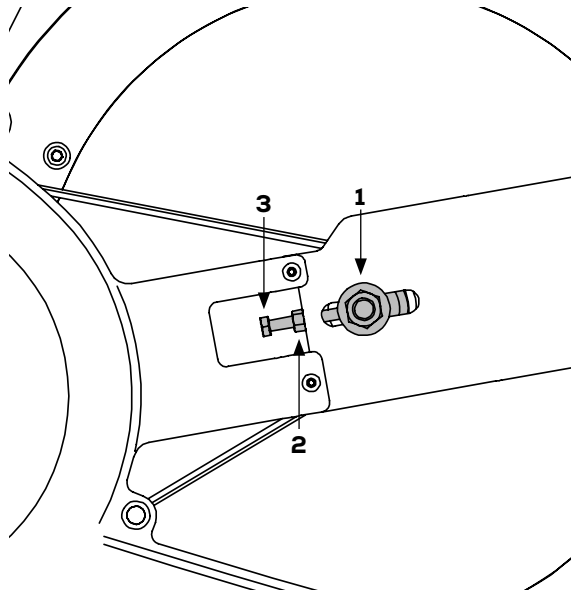

Figure 30
2) Loosen the bolts (1) on both sides of the bike with a 19 mm wrench. See figure 30.
3) Loosen the nuts (2) on the counter bolt on both sides of the bike with a 10 mm wrench. See figure 30.
4) Use a wrench to tighten the counter bolts (3). On the right side, the tool should be pulled downwards and on the left side upwards to tighten with a 10 mm wrench.
6) Tighten the counter bolt (2) on both sides of the bike again.
7) And tighten the bolt(1) again on both sides of the bike.